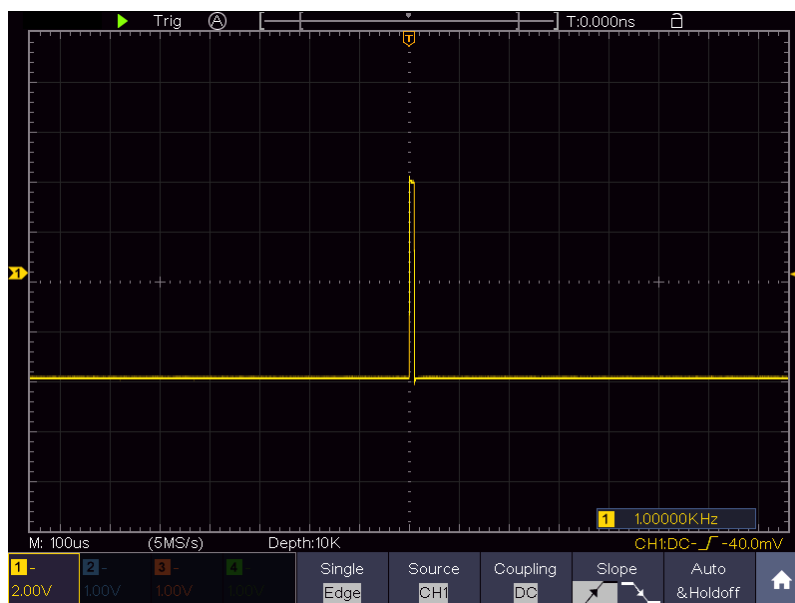

Figure 9-3 Capturing a Single Signal
- (2) Push **CH1** button to select CH1, adjust the **Vertical Scale** and **Horizontal Scale** controls to set up a proper vertical and horizontal ranges for the signal to be observed.
- (3) Push the **Acquire** button to display the Acquire menu.
- (4) Select **Acqu Mode** in the bottom menu. Select **Peak Detect** in the right menu.
- (5) Push the **Trigger Menu** button to display the Trigger menu.
- (6) Select the first menu item in the bottom menu. Select **Single** in the right menu.
- (7) In the left menu, select **Edge** as the mode.
- (8) Select **Source** in the bottom menu. Select **CH1** in the right menu.
- (9) Select **Coupling** in the bottom menu. Select **DC** in the right menu.
- (10) In the bottom menu, select **Slope** as  (rising).
- (11) Turn the **Trigger Level** control and adjust the trigger level to the roughly 50% of the signal to be measured.
- (12) Check the Trigger State Indicator on the top of the screen, if it is not Ready, push down the **Run/Stop** button and start acquiring, wait for trigger to happen. If a signal reaches to the set trigger level, one sampling will be made and then displayed in the screen. By using this approach, a random pulse can be captured easily. For instance, if we want to find a burst burr of high amplitude, set the trigger level to a slightly higher value of the average signal level, push the **Run/Stop** button and wait a trigger. Once there is a burr occurring, the instrument will trigger automatically and record the waveform during the period around the trigger time. By turning the **Horizontal Position** control in the horizontal control area in the panel, you can change the horizontal triggering position to obtain the negative delay, making an easy observation of the waveform before the burr occurs (see *Figure 9-3*).